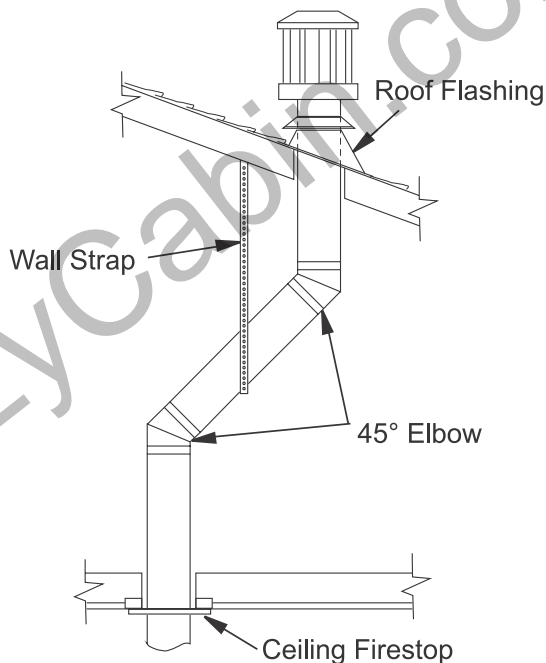

Figure 16 - Offset with Wall Strap and 45° Elbows
1. Determine route your vertical venting will take. If ceiling joists, roof rafters or other framing will obstruct venting system, consider an offset (see Figure 16) to avoid cutting load bearing members. *Note: Pay special attention to these installation instructions for required clearances (air space) to combustibles when passing through ceilings, walls, roofs, enclosures, attic rafters, etc. Do not pack air spaces with insulation. Also note maximum vertical rise of venting system and any maximum horizontal offset limitations.*
5. Place flashing over pipe section(s) extending through roof. Secure base of flashing to roof and framing with roofing nails. Be sure roofing material overlaps top edge of flashing as shown in Figure 16. There must be a 1" clearance from vent pipe to combustible materials.